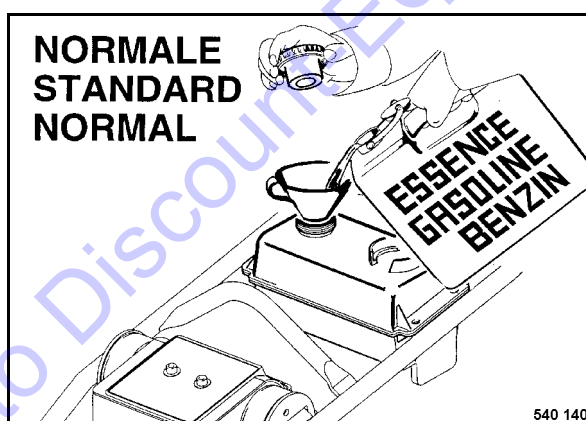

Fig. 35
- Close the filler cap again tightly after refuelling (Fig. 35).